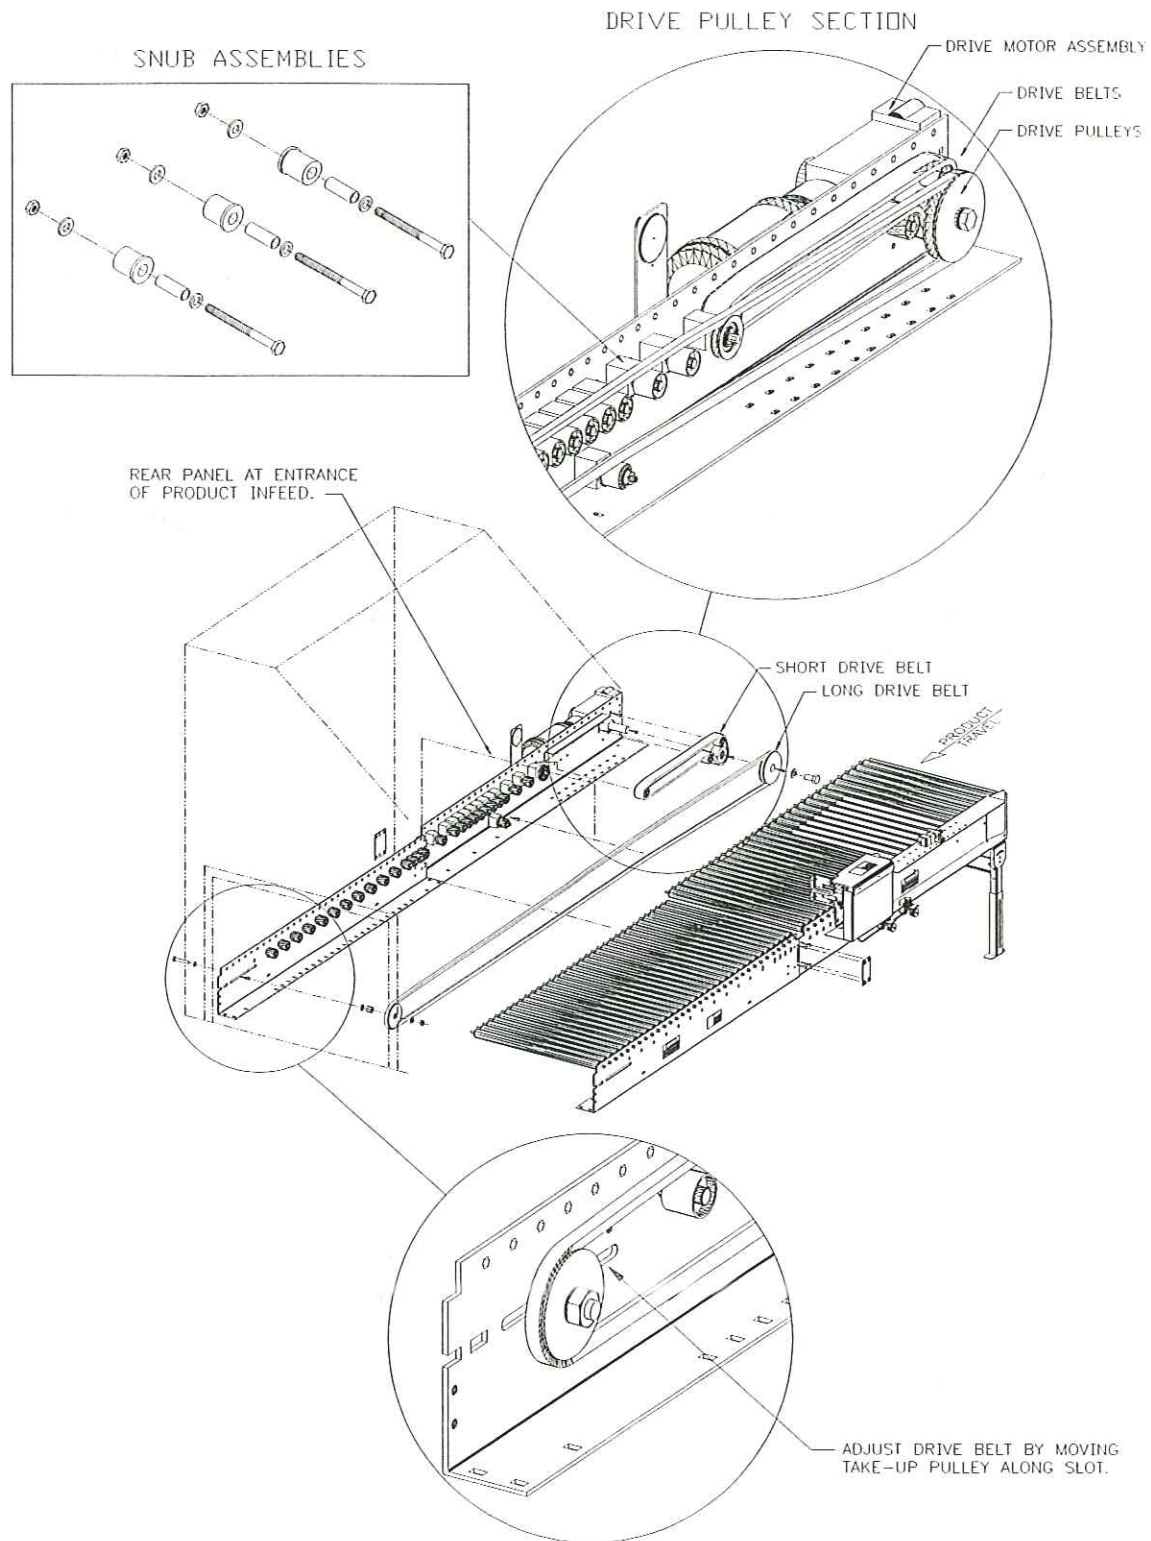

Figure 6-6: Infeed Conveyor Belts
3. Install the drive belt for the Live Rollers. Tension the belt with the take-up pulley on the side frame. (See Figure 6-6.) Refer to Section 4, "Service & Maintenance" for drive belt adjustment information.